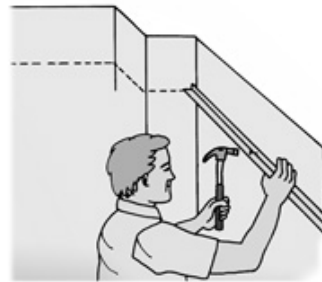

FIG. 5 - Use a level to apply the wall angle at a proper height around the room.
- After locating the exact position for the suspended false ceiling, draw a line with using water tube level, completely around the room indicating where the wall angle will be applied (Fig. 5). Don't assume